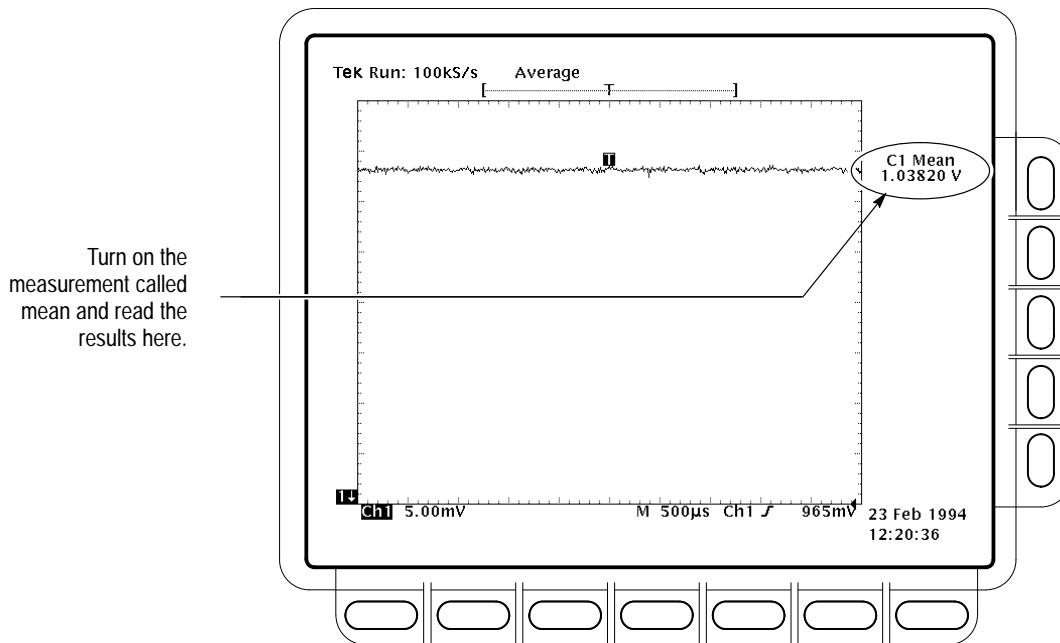

Figure 4–6: Measurement of DC Accuracy at Maximum Offset and Position
- e. *Measure the test signal:* Press **CLEAR MENU**. Read the measurement results at the **Mean** measurement readout. See Figure 4–6.